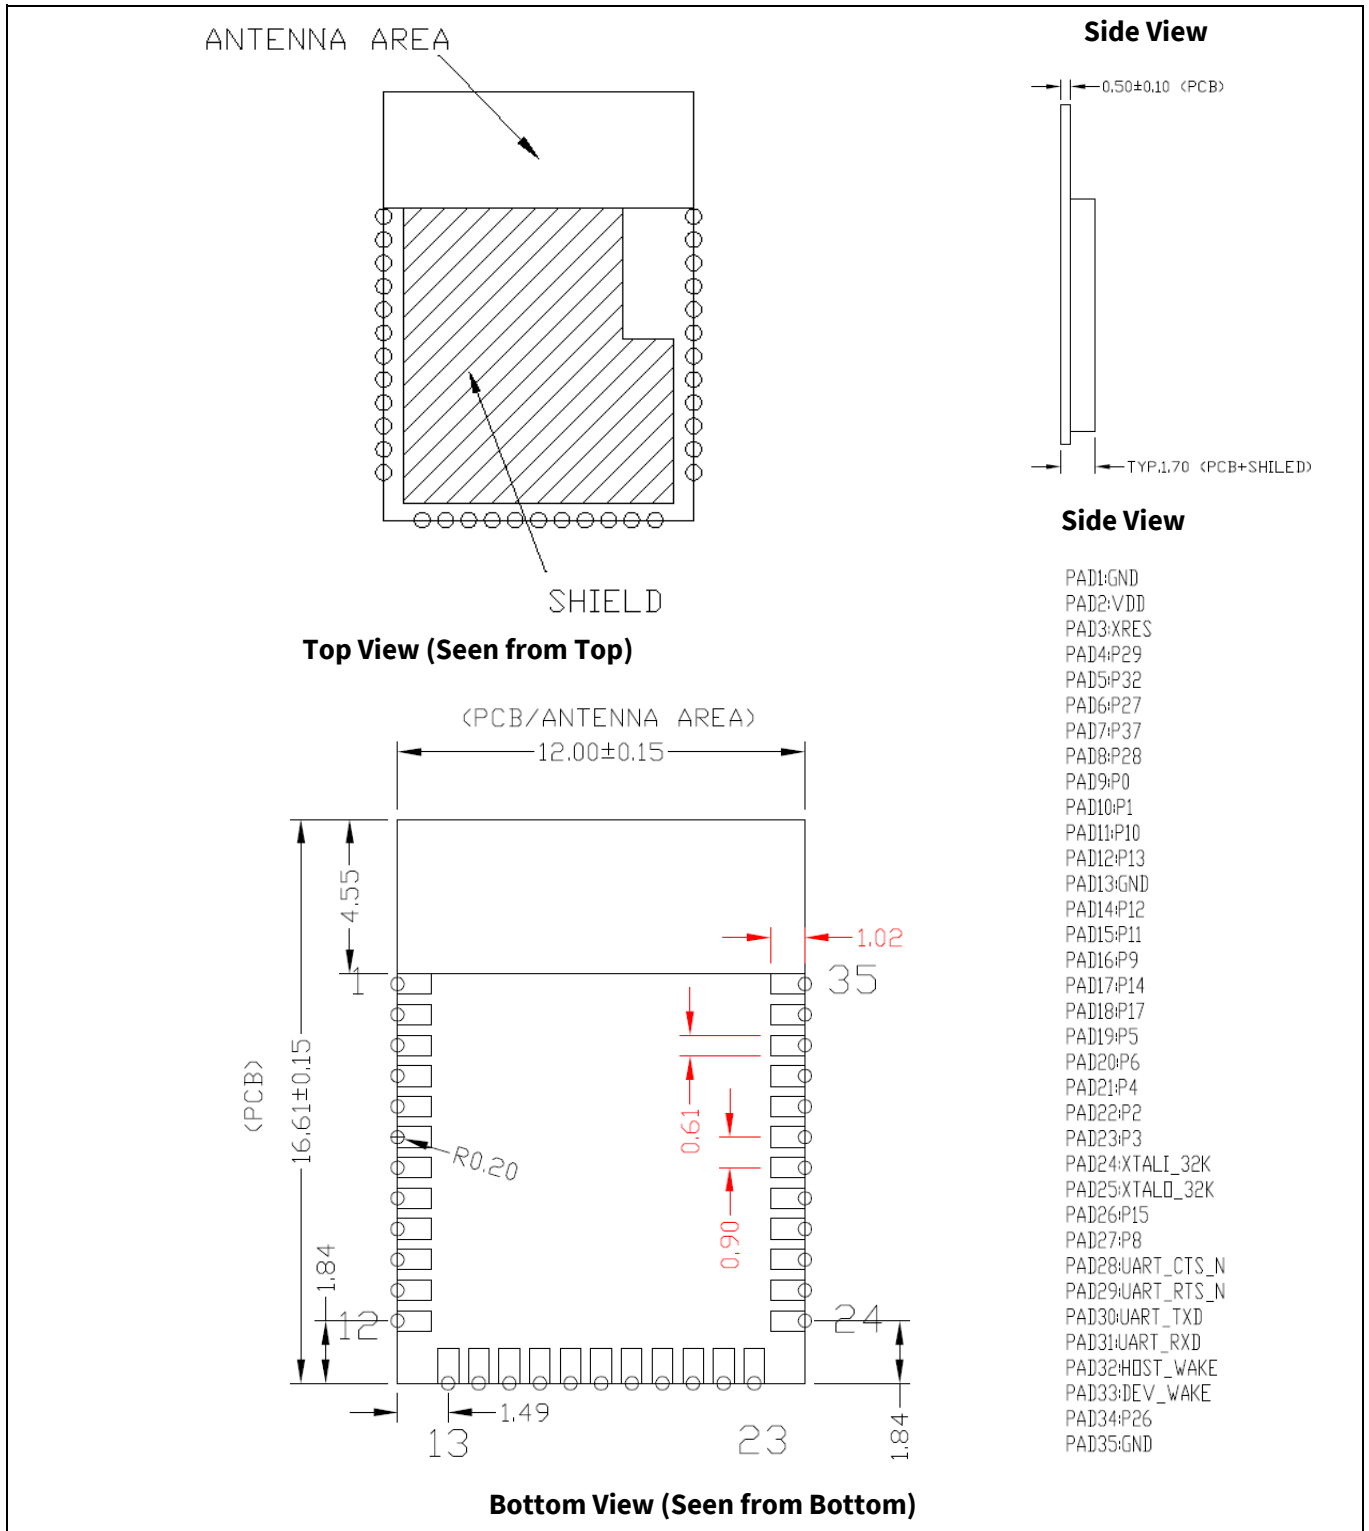
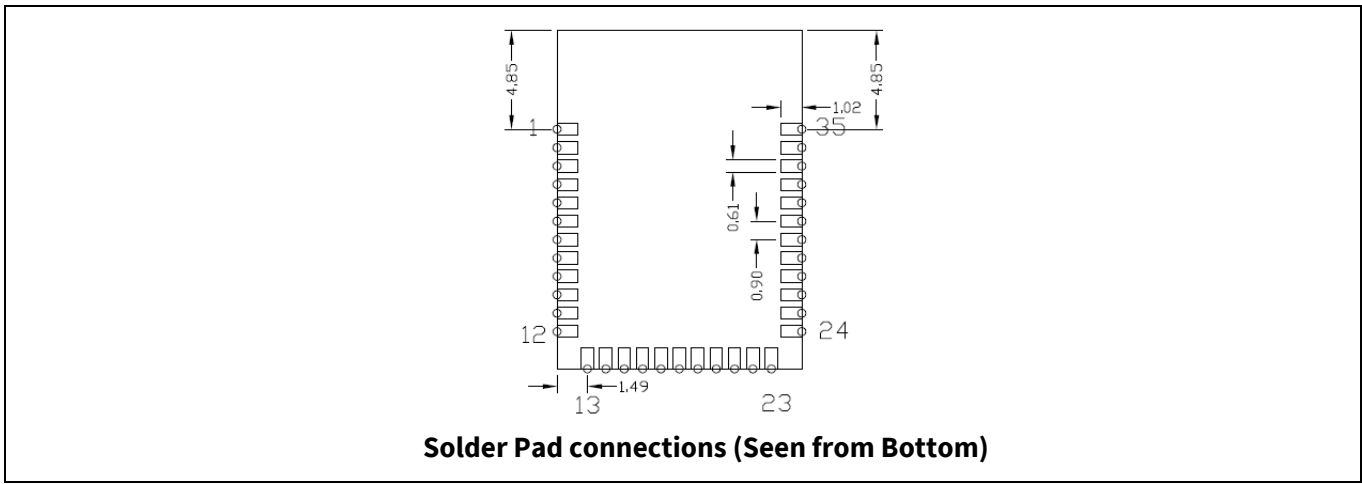
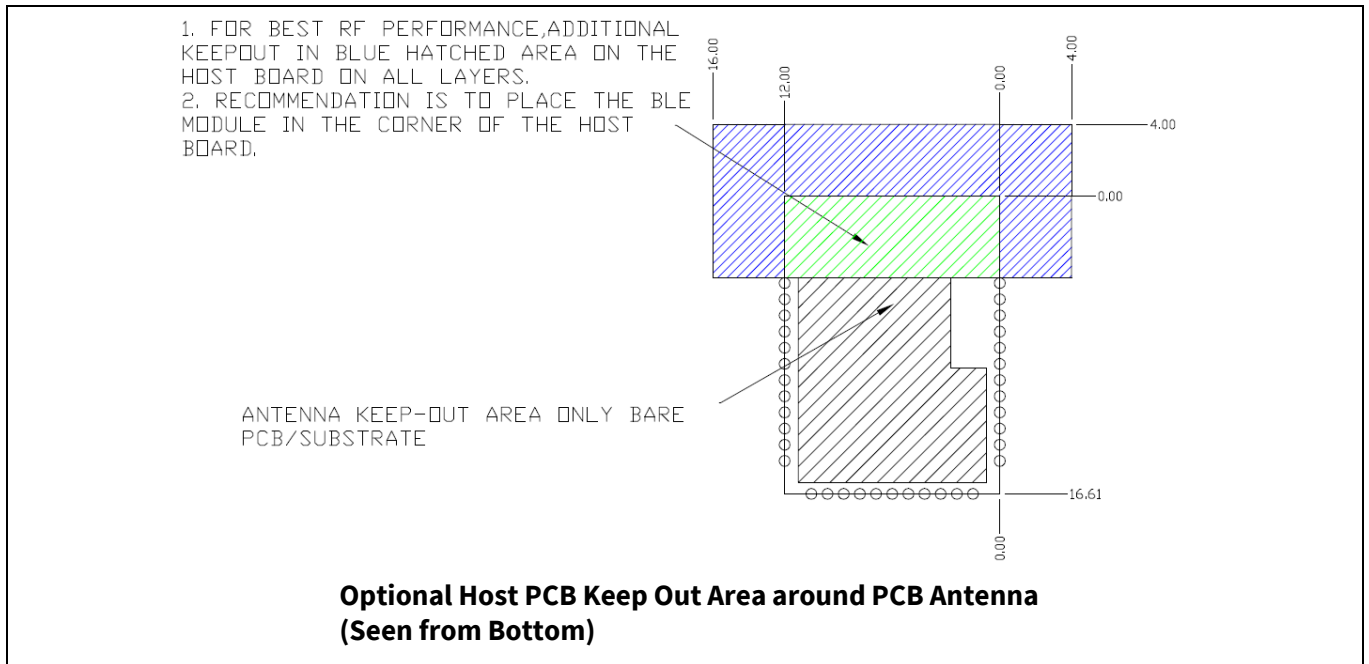

Figure 2 Module mechanical drawing
Figure 3 Solder Pad dimensions (Seen from Bottom)
Figure 4 Optional Additional Host PCB Keep Out Area around the CYBT-213043-02 PCB Antenna
Infineon reserves the right to select components from various vendors to achieve the Bluetooth® module functionality. Such selections will still guarantee that all mechanical specifications and module certifications are maintained. The CYBT-213043-02 will be held within the physical dimensions shown in the mechanical drawings in **Figure 2**. All dimensions are in millimeters (mm).
See **Figure 2** for the mechanical reference drawing for CYBT-213043-02.
As shown in the bottom view of **Figure 2**, the CYBT-213043-02 has 28 connections to a host board via solder pads (SP). **Table 2** and **Figure 3** detail the solder pad length, width, and pitch dimensions of the CYBT-213043-02 module.
1. Antenna Area Keepout: The host board directly below the antenna area of the Infineon module (see **Figure 2**) must contain no ground or signal traces. This keep out area requirement applies to all layers of the host board.
2. Module Placement: The ideal placement of the Infineon Bluetooth® module is in a corner of the host board with the PCB antenna located at the far corner. This placement minimizes the additional recommended keep out area stated in item 3 below. Refer to **AN96841** for module placement best practices.
3. Optional Keepout: To maximize RF performance, the area immediately around the Infineon Bluetooth® module PCB antenna may contain an additional keep out area, where there are no grounding or signal traces. The keep out area applies to all layers of the host board. The recommended dimensions of the host PCB keep out area are shown in **Figure 4** (dimensions are in mm).